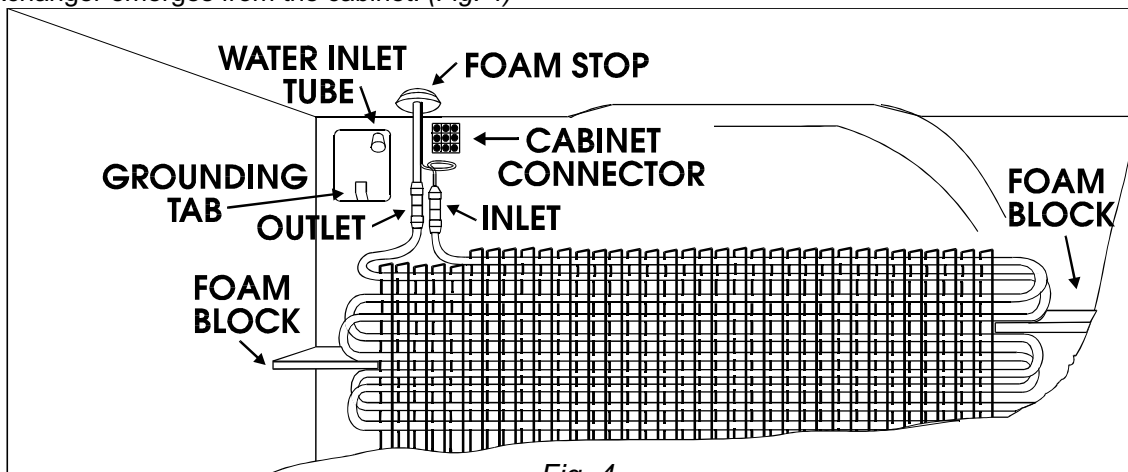

Fig. 4
15. Cut away the foam stop material even with the plastic freezer compartment liner where the heat exchanger emerges from the cabinet. (Fig. 4)